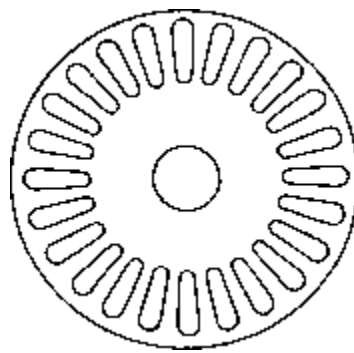

Figure 12
- moderate starting torque motor - figure 12;
Consider a force of 'F' newtons acting tangentially on a rotor at a distance of 'r' metres from the centre of its shaft, as in figure 12.